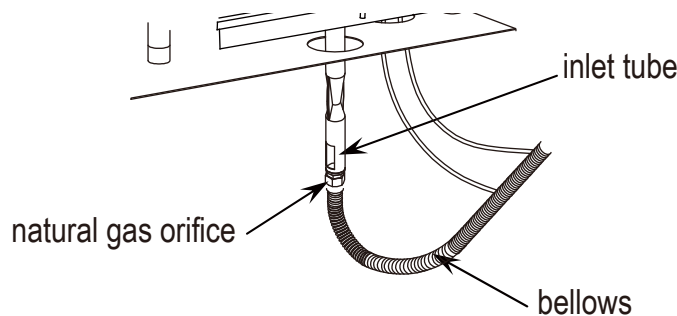

Figure 13
3. Replace the propane orifice with the natural gas orifice, screw the natural gas orifice with the bellows tightly, then connect and tighten the natural gas orifice with inlet tube (see Figure 13). Natural gas orifice (4.18 mm diameter size) is painted with black mark.